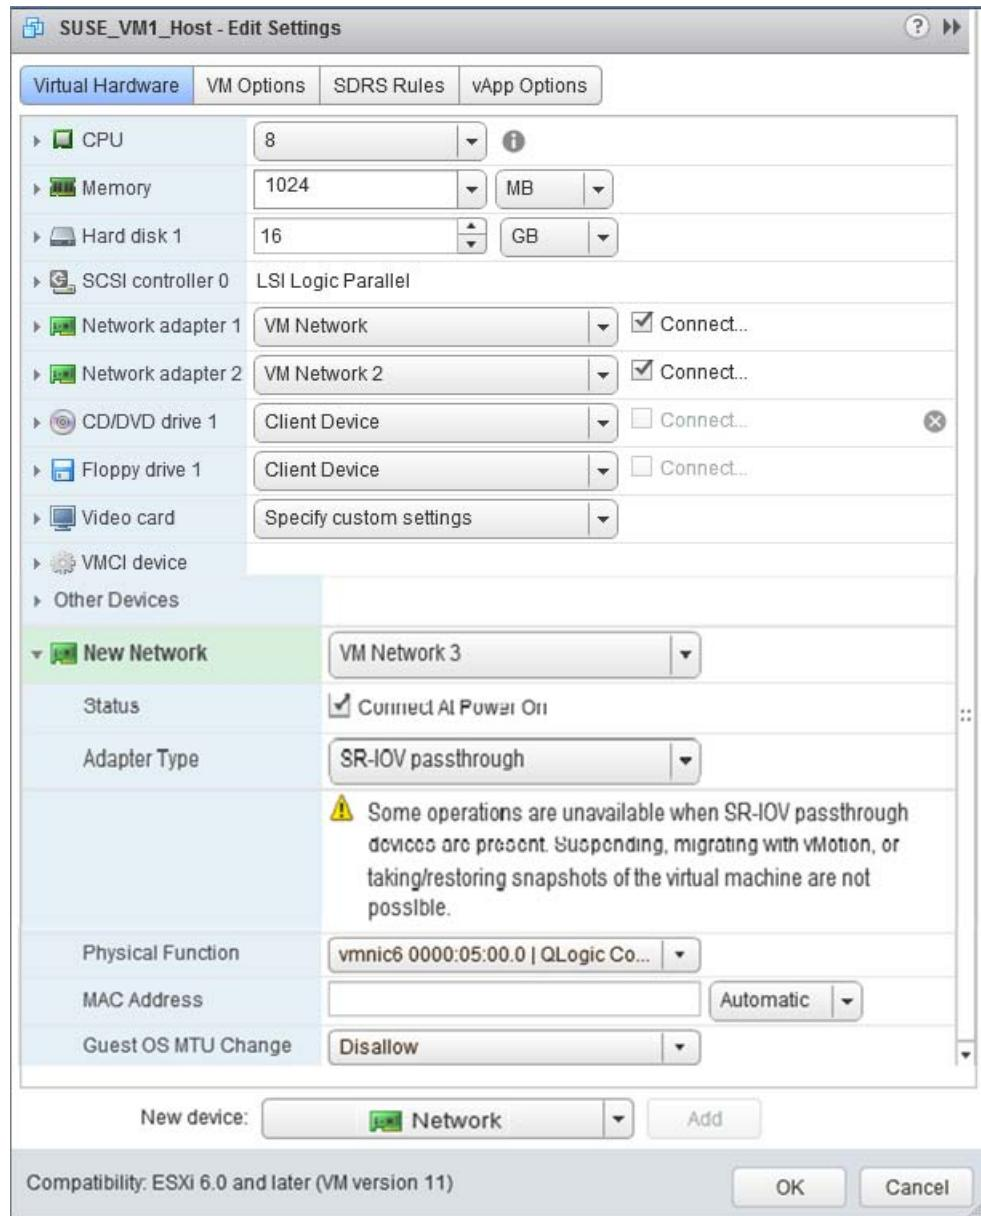

Figure 11-15. VMware Host Edit Settings
15. Complete the Edit Settings dialog box (Figure 11-15) as follows: